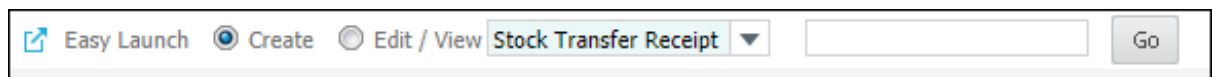

Figure 2.5 Easy Launch section
1. Select the **Create** radio button in the **Easy Launch** section See Figure 2.5.